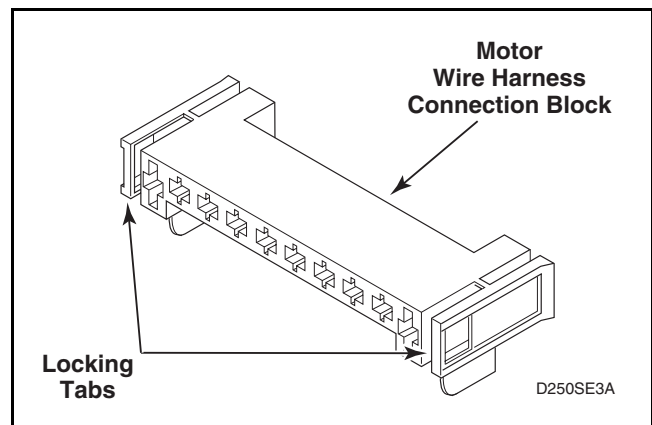

Figure 28
- h. Disengage motor wire harness terminal block from motor switch by pressing in on the movable locking tabs (located on each end of the terminal block) and pulling away from motor. Refer to *Figures 28 and 29*.
- (1) Disengage motor wire harness terminal block from the motor by pressing in on the movable locking tabs (located on each side of the terminal block) and pulling away from motor. Refer to *Figure 28*.